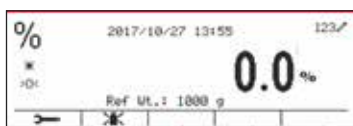

Figure 64
- Press the  button until the icon corresponding to percent is displayed in the upper left portion of home screen. (See Figure 64)